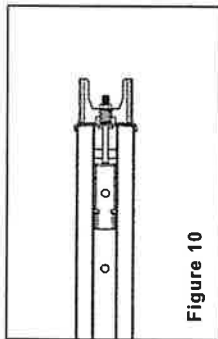

Figure 10
4. Tighten the nut to the right position as shown in Fig.10, cut the plastic thread on sprocket, then whole rail assembled finished.